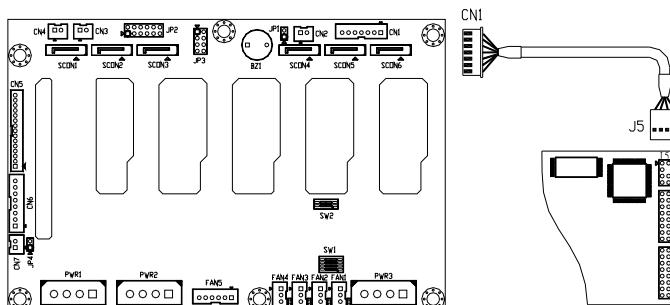

Figure 4.4: Connect the RAID card to SATA HDD backplane
3. Find the provided cable in the accessory box and connect it from the add-on SATA RAID card (J5) to the SATA HDD backplane (CN1). (see Figure 4.4)